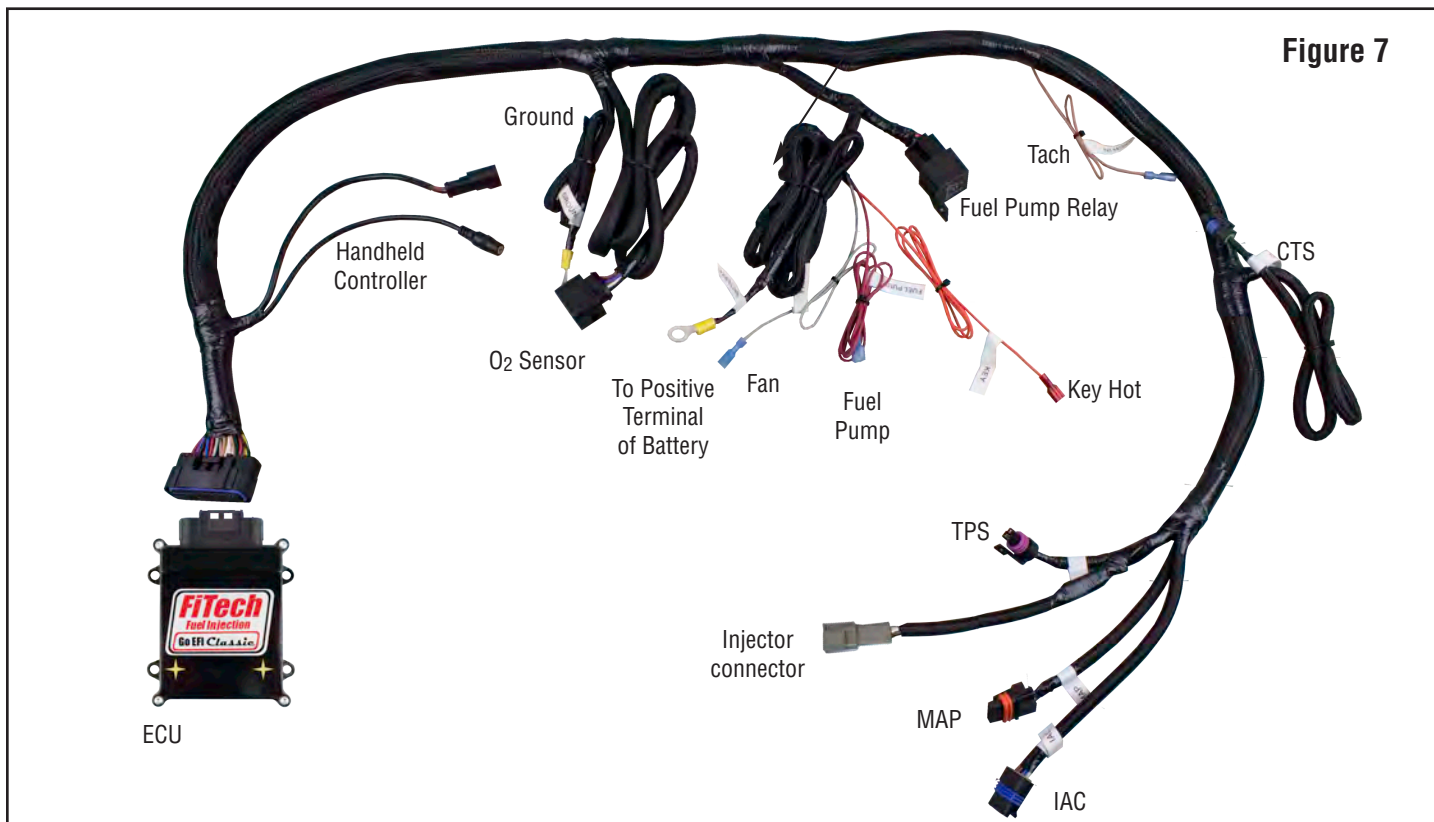

Figure 7
2. The Sensor connects to one of the cables in the main wiring harness. See Figure 7 on next page.
10. Connect the O₂ sensor to the sub-harness that connects to the throttle body. See Figure 7.
All modifications made to wiring can only be made on wires listed in Wire Chart Figure 16 on the next page such as extensions or cuts. Any modification of the ECU main harness (see Figure 7) other than these listed wires will result in a VOIDING of the FiTech EFI warranty.
See Figure 7. Connect the injector sub-harness onto the main harness. Make sure the connectors are securely fastened.